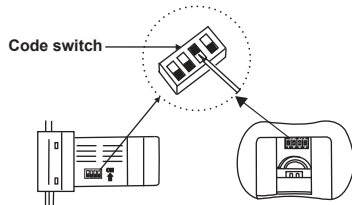

Figure 8
**NOTE:** This remote control unit is equipped with 16 code combinations to prevent possible interference from or to other remote units. The frequency switches on your receiver and transmitter have been preset at the factory. Please recheck to make sure the switches on transmitter and receiver are set to the same position. (Figure 8)